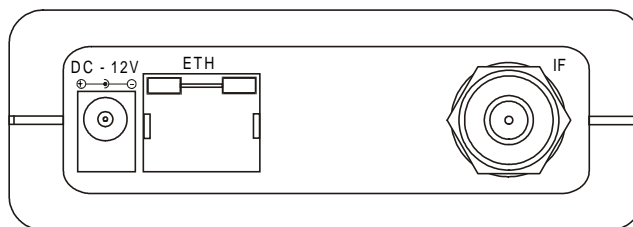

Figure 2-7. SU-NI Rear Panel
2. Connect the SU-PS power cord to the DC In jack (marked DC-12V) located on the rear panel of the Indoor unit (shown in Figure 2-7).